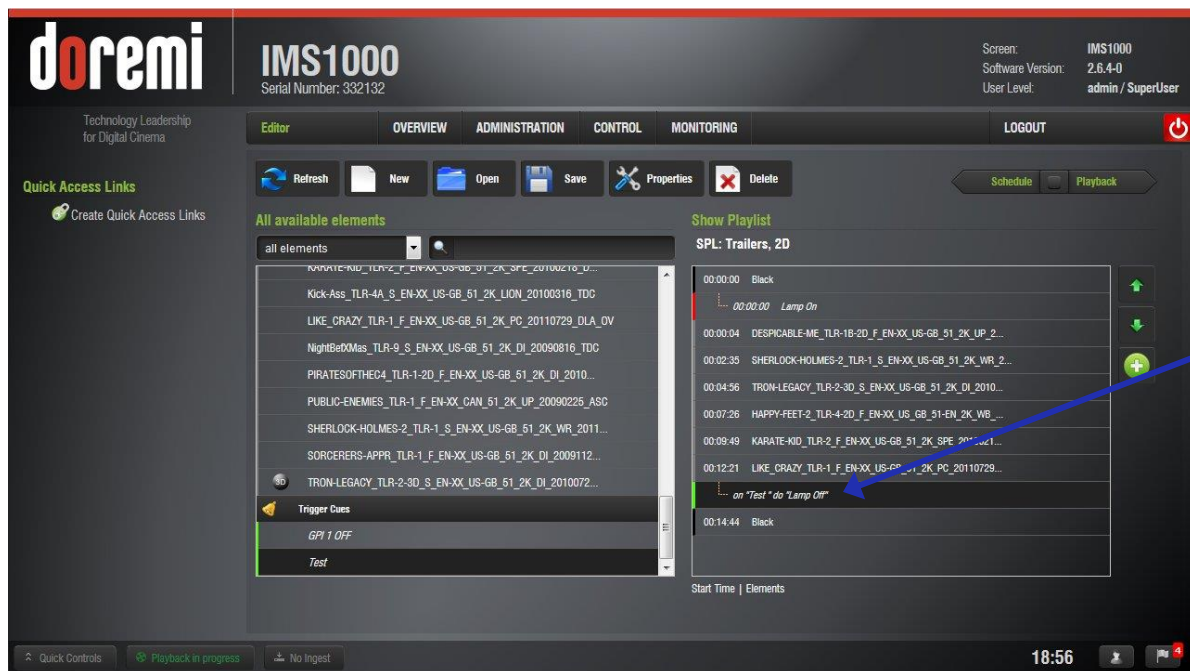

Figure 231: Trigger Added
- Click Ok when finished and the Trigger will appear on the right hand side of the GUI (Figure 231).